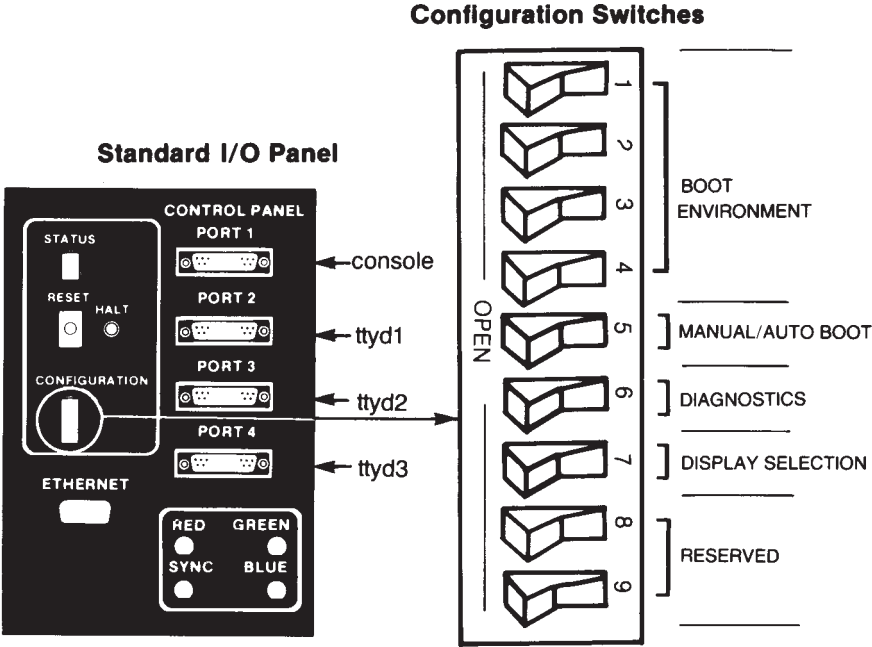

Figure 3-1: IRIS Configuration Switches
2. Set configuration switches 1 through 9 on the cabinet back panel to **Closed** (see Figure 3-1).
- 2. Set configuration switches 1 through 9 on the cabinet back panel to **Closed** (see Figure 3-1).